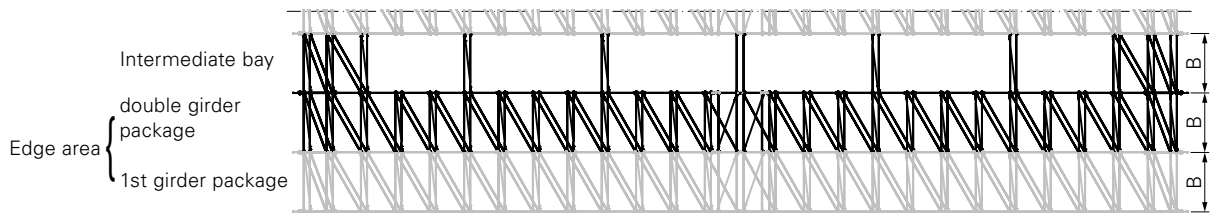

Fig. B1.04b
- double girder package (Fig. B1.04b)